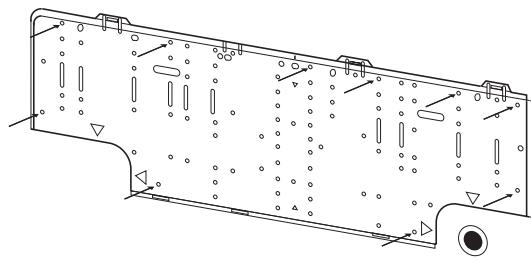

Fig. 1-36
- 1) Attach the rear panel to the wall with the 10 screws provided. (Fig. 1-36)